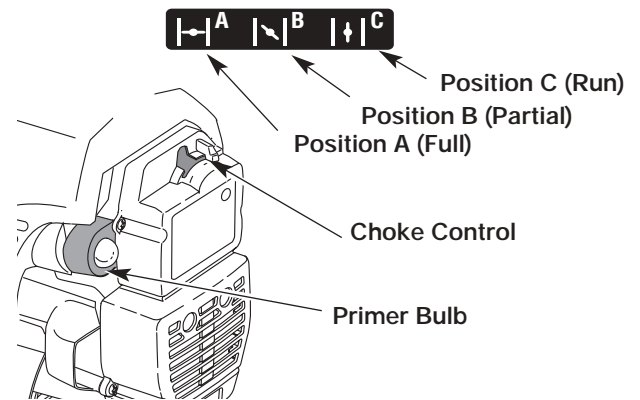

Fig. 11
2. Fully press and release the primer bulb 10 times, slowly. Some amount of **fuel should be visible in the primer bulb** and fuel lines (Fig. 11). If you can't see fuel in the bulb, press and release the bulb as many times as it takes before you can see fuel in it.
3. Place the choke lever in **Position A** (Fig. 11).